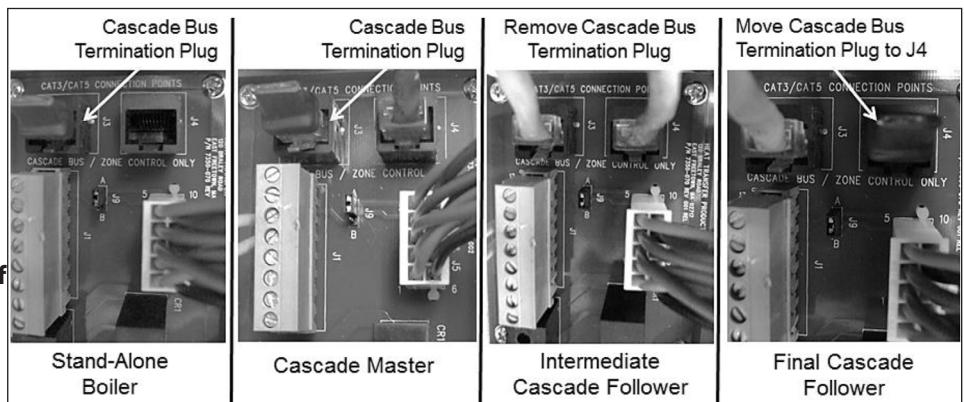

Figure 29 - Cascade Termination Plug Detail
NOTE: A termination plug is included in the CAT 3 / CAT 5 Bus Connection Point, labeled J3 in Figure 29. DO NOT REMOVE THIS PLUG! Doing so will affect boiler operation and void warranty.
1. Connect the incoming power wiring to the line voltage terminal strip in the electrical junction box at terminals 120V, Neutral, Ground (shown in Figure 29).
3. Connect the boiler pump as shown in Figure 29 to the terminals marked 1 – (HOT), 2 – (NEUT), and 3 – (GND). The connections shown are suitable for a maximum continuous pump draw of 3 amps at 120 volts. If the pump requires more current or voltage than the 120 volts supplied, an external motor starter or contactor will be required.
The control includes a dry contact alarm output. This is an SPDT circuit, rated at 5 amps at 120 volts. This contact can be used to activate an alarm light or bell or notify a building management system if the boiler goes into a lockout condition. The circuit between the ALARM COM and NC terminals is closed during normal operation and the circuit between ALARM COM and NO is open during normal operation. The connections depicted in Figure 29 show two 120 volt lights connected to the alarm terminals. One light will be on when the boiler is in normal mode and the other light will be on when the boiler is in lockout mode.
1. Connect the room thermostat to the terminals marked THERMOSTAT in the electrical junction box (see Figures 29 and 32). Alternately, any dry contact closure across these terminals will cause the boiler to run. Take caution to ensure neither of the terminals becomes connected to ground.
2. Connect the indirect sensor (7250P-325) to the terminals marked DHW SENSOR (shown in Figures 29 and 32) in the electrical junction box.
2. Connect a building management system or other auxiliary control signal to the terminals marked 16, 0-10 VOLT + and 17, 0-10 VOLT - in the electrical junction box (shown in Figure 29). Caution should be used to ensure that the 0-10 VOLT + connection does not become connected to ground.